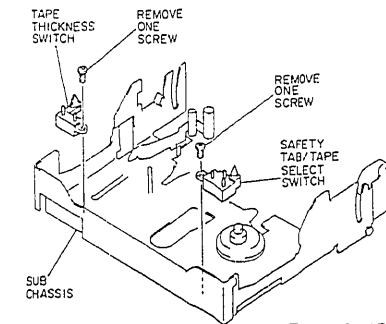
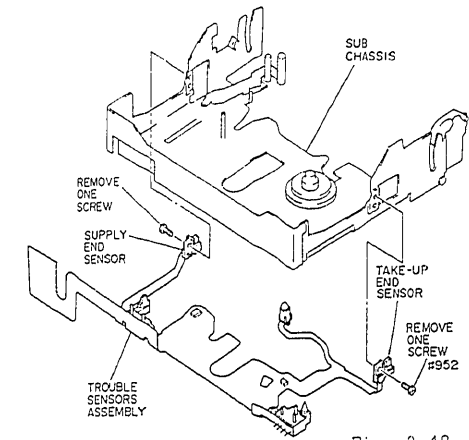

Fig. 2-47
Fig. 2-48
- 1) Remove one (1) screw holding the safety tab/tape select switch. (See Fig. 2-47)
- 2) Remove one (1) screw holding the tape thickness switch
- 3) Remove one (1) screw holding the take-up end sensor. (See Fig. 2-48)
- 4) Remove one (1) screw holding the supply end sensor.